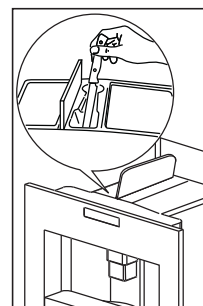

Fig. 28
- Check regularly (about once a month) that the pre-ground coffee funnel is not blocked (Fig. 28).